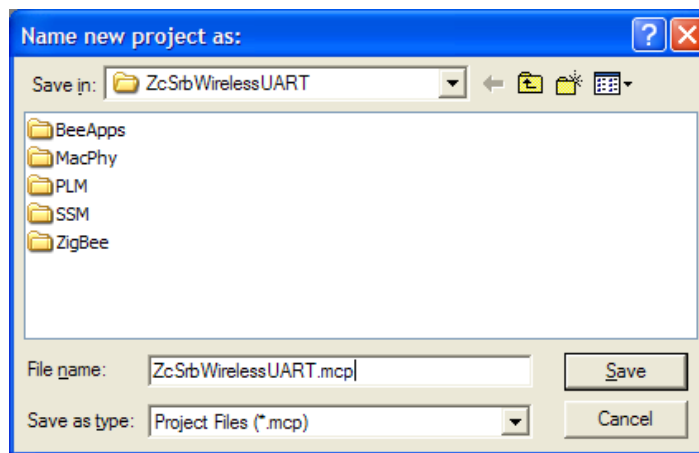

Figure 5-19. CodeWarrior Name New Project Window
6. Click the Save button and CodeWarrior creates and loads the project file as shown in Figure 5-19.